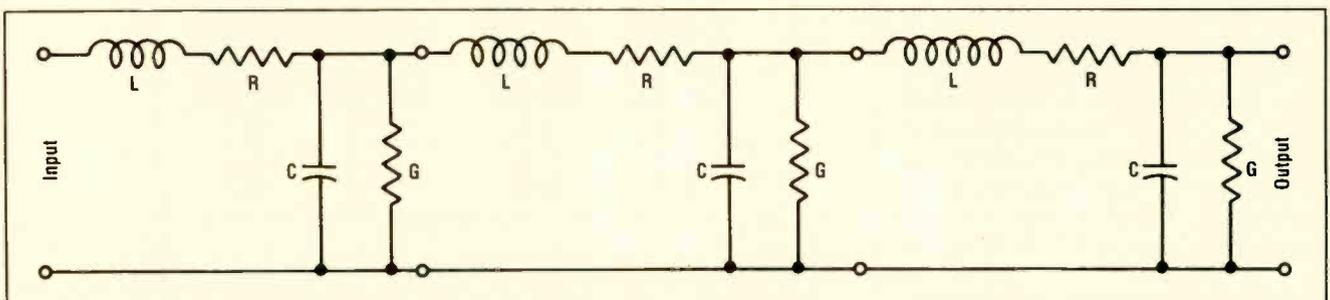

Fig. 2—A simple schematic drawing of an equivalent circuit of an antenna transmission line.
The equivalent circuit for a coaxial transmission line (Fig. 2) consists of series inductance (L) and shunt capacitance (C), both of which are virtually constant with frequency. In the line there is also series resistance (R), which is inherent in copper conductors, and some shunt conductance (G), representing the dielectric loss of the imperfect dielectric material which insulates the two conductors. Both R and G, which increase with frequency, contribute to TV signal attenuation on the line.